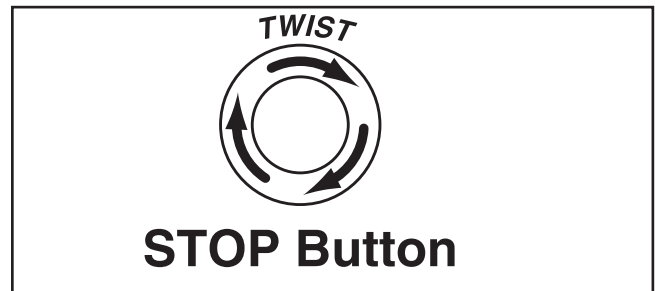

Figure 21. Resetting the switch.
5. Push the OFF button in, then twist it clockwise so it pops out. When the OFF button pops out, the switch is reset and ready for operation (see **Figure 21**).